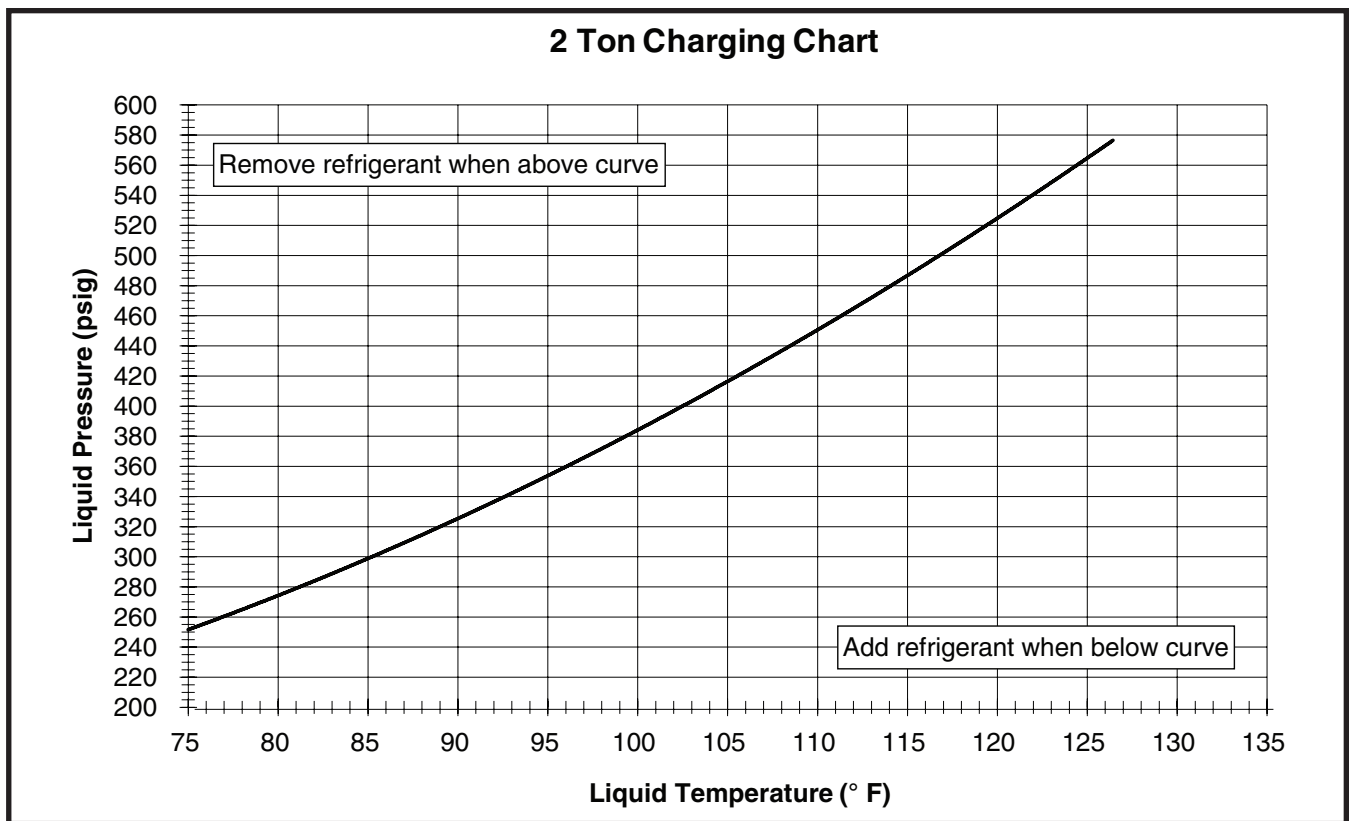
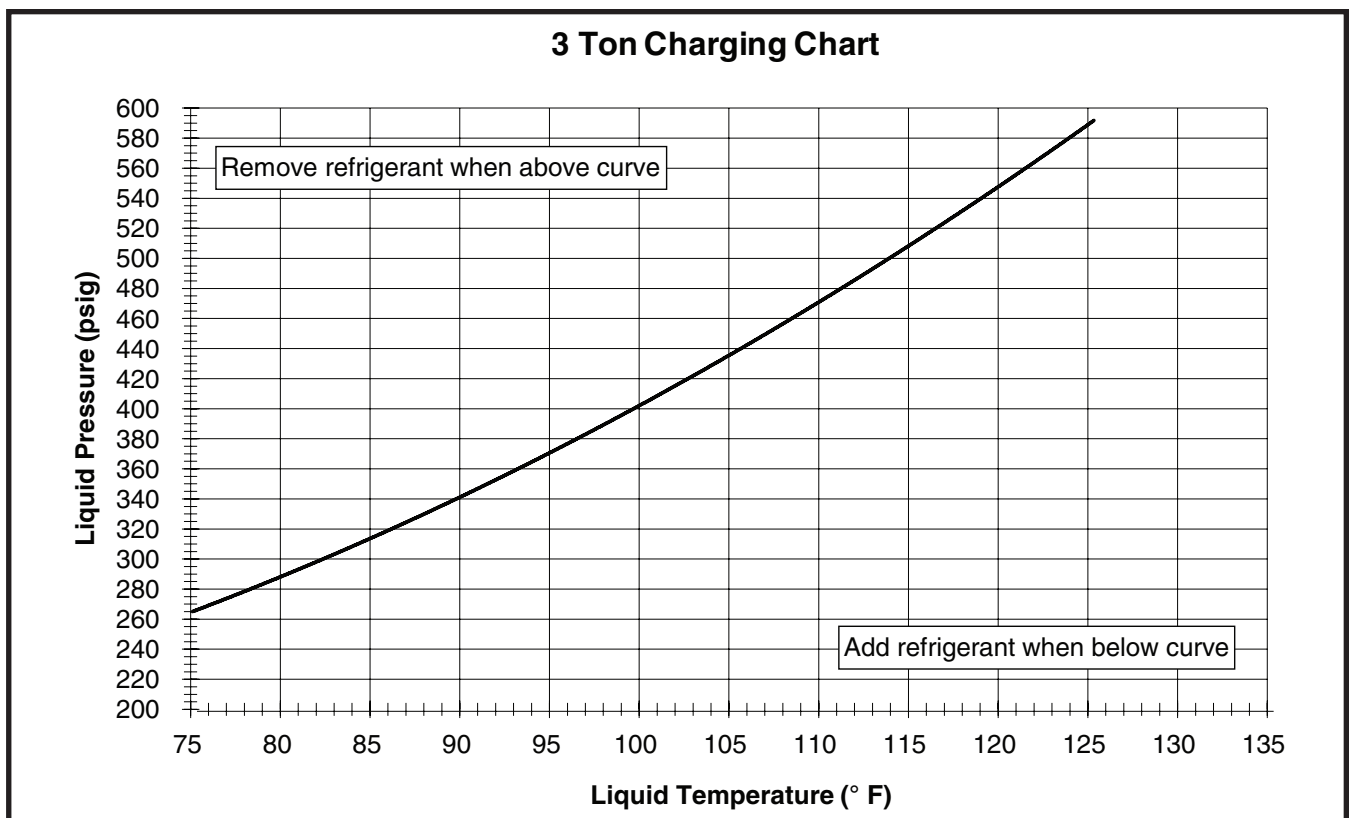
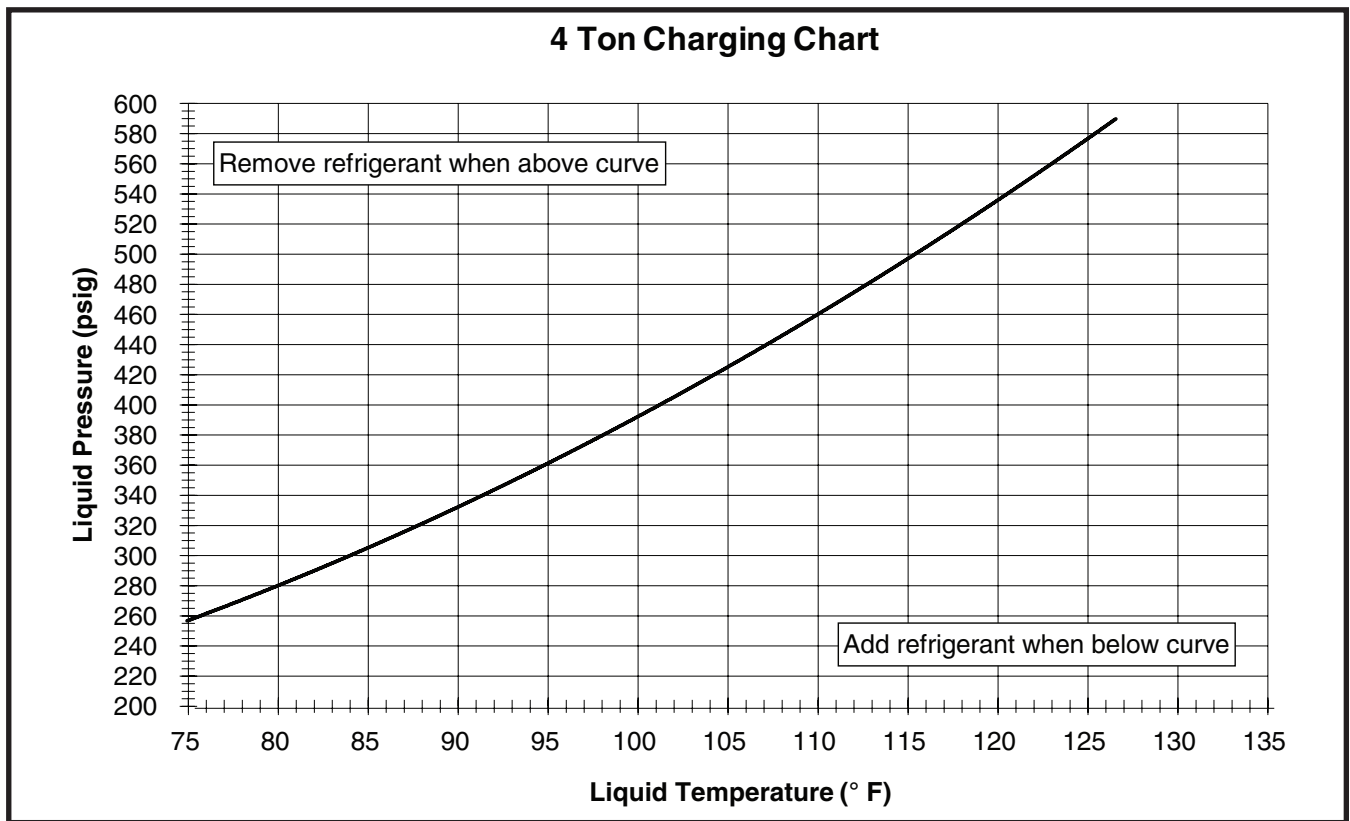
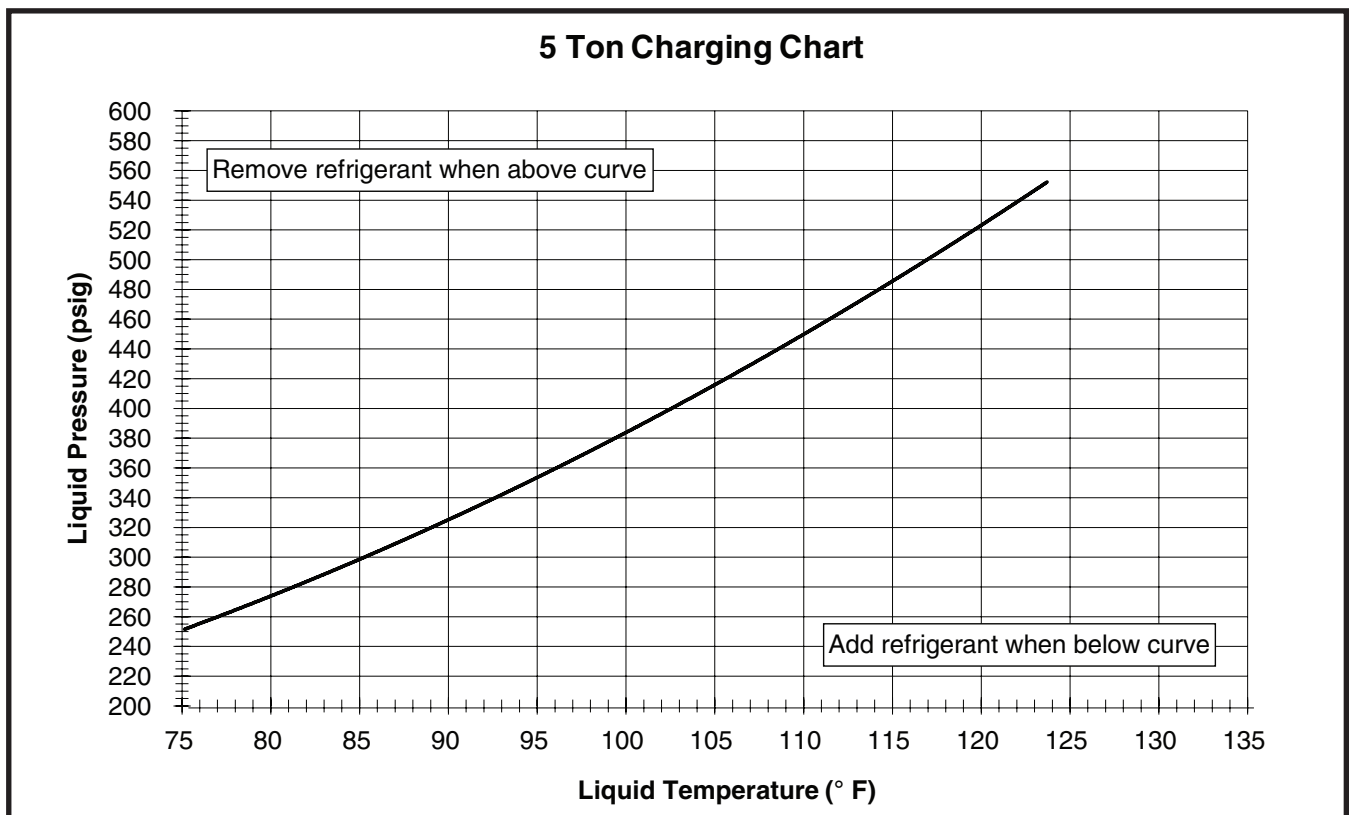

Figure 8. Charging Chart for 2 ton Units
Figure 9. Charging Chart for 3 ton Units
Figure 10. Charging Chart for 4 ton Units
Figure 11. Charging Chart for 5 ton Units
3. For the temperature measured, determine the required liquid refrigerant pressure from your units label or charging charts: Figure 8 \(page 10\), Figure 9 \(page 10\), Figure 10 \(page 11\), and Figure 11 \(page 11\).